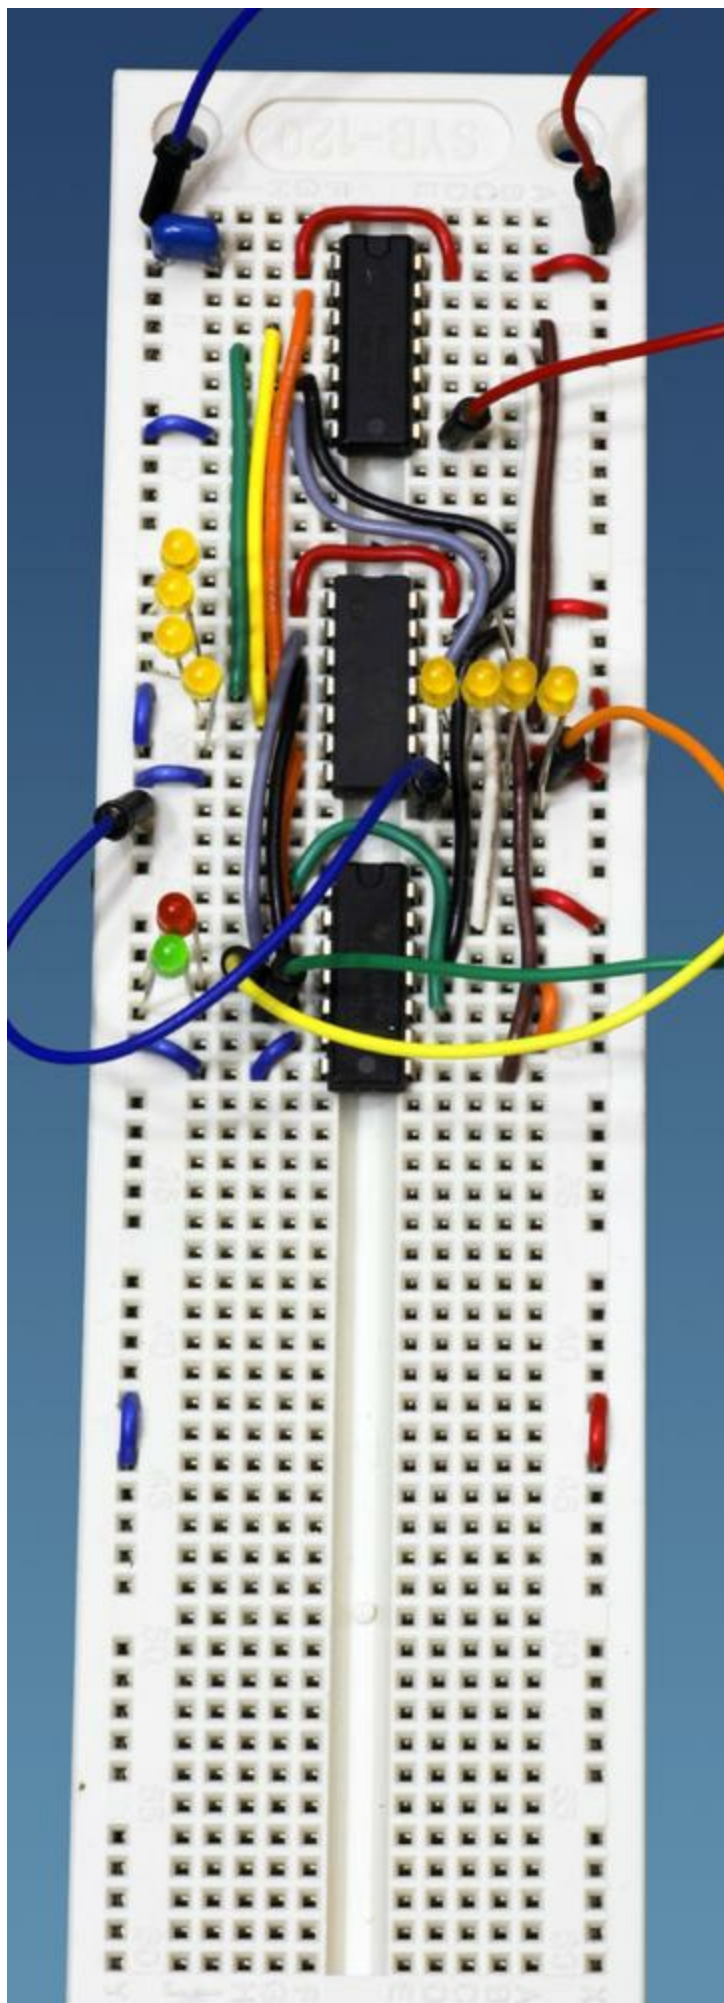
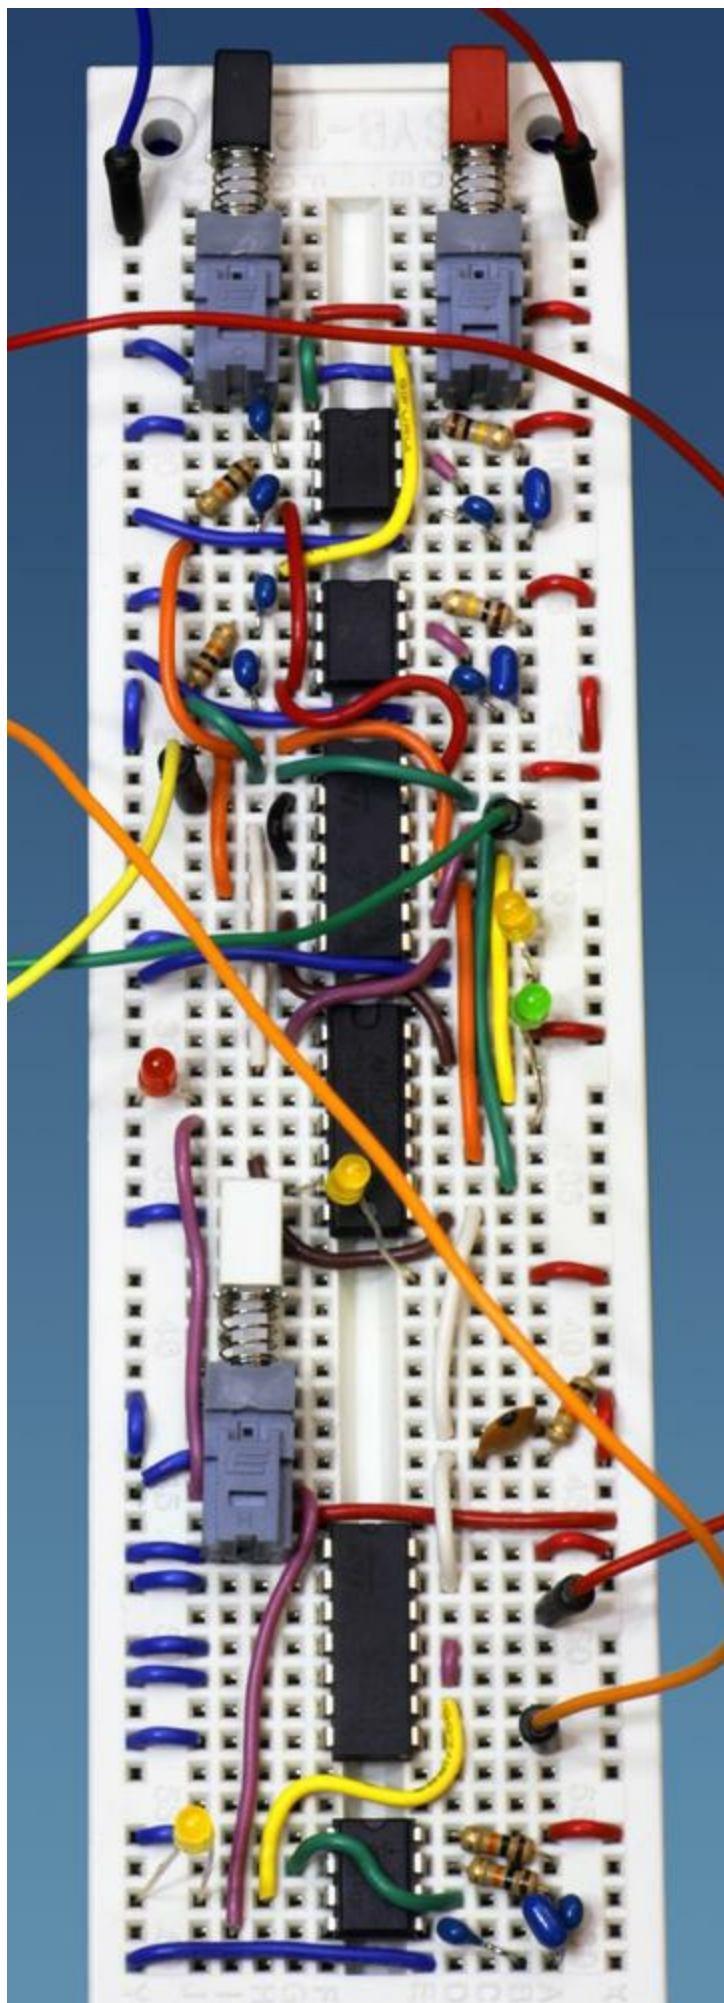

Figure 36-7. Part 1 of the single-person Telepathy Test, breadboarded.
Figure 36-8. Part 2 of the single-person Telepathy Test, breadboarded.
**Figure 36-7** and **Figure 36-8** show the breadboarded versions of the circuit. Additional LEDs were included during the testing process.